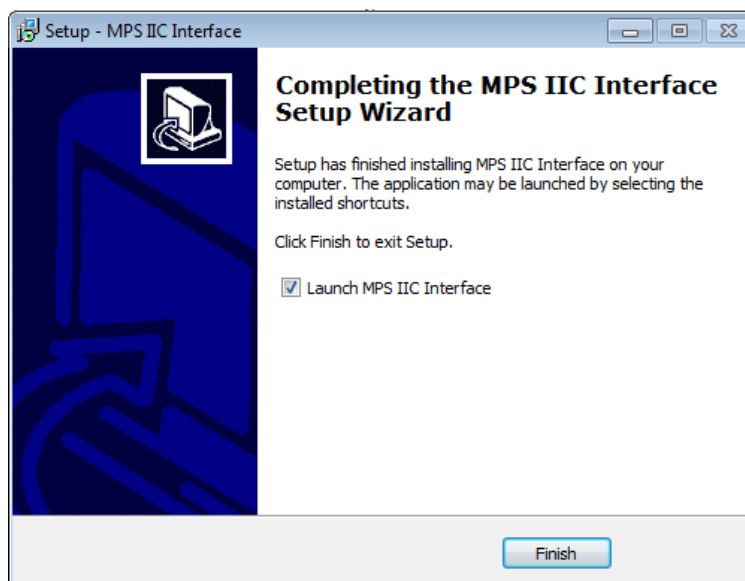

Figure 5: MPS I²C Set-Up Success
5. Wait for status screen to verify that installation is complete (see Figure 5).